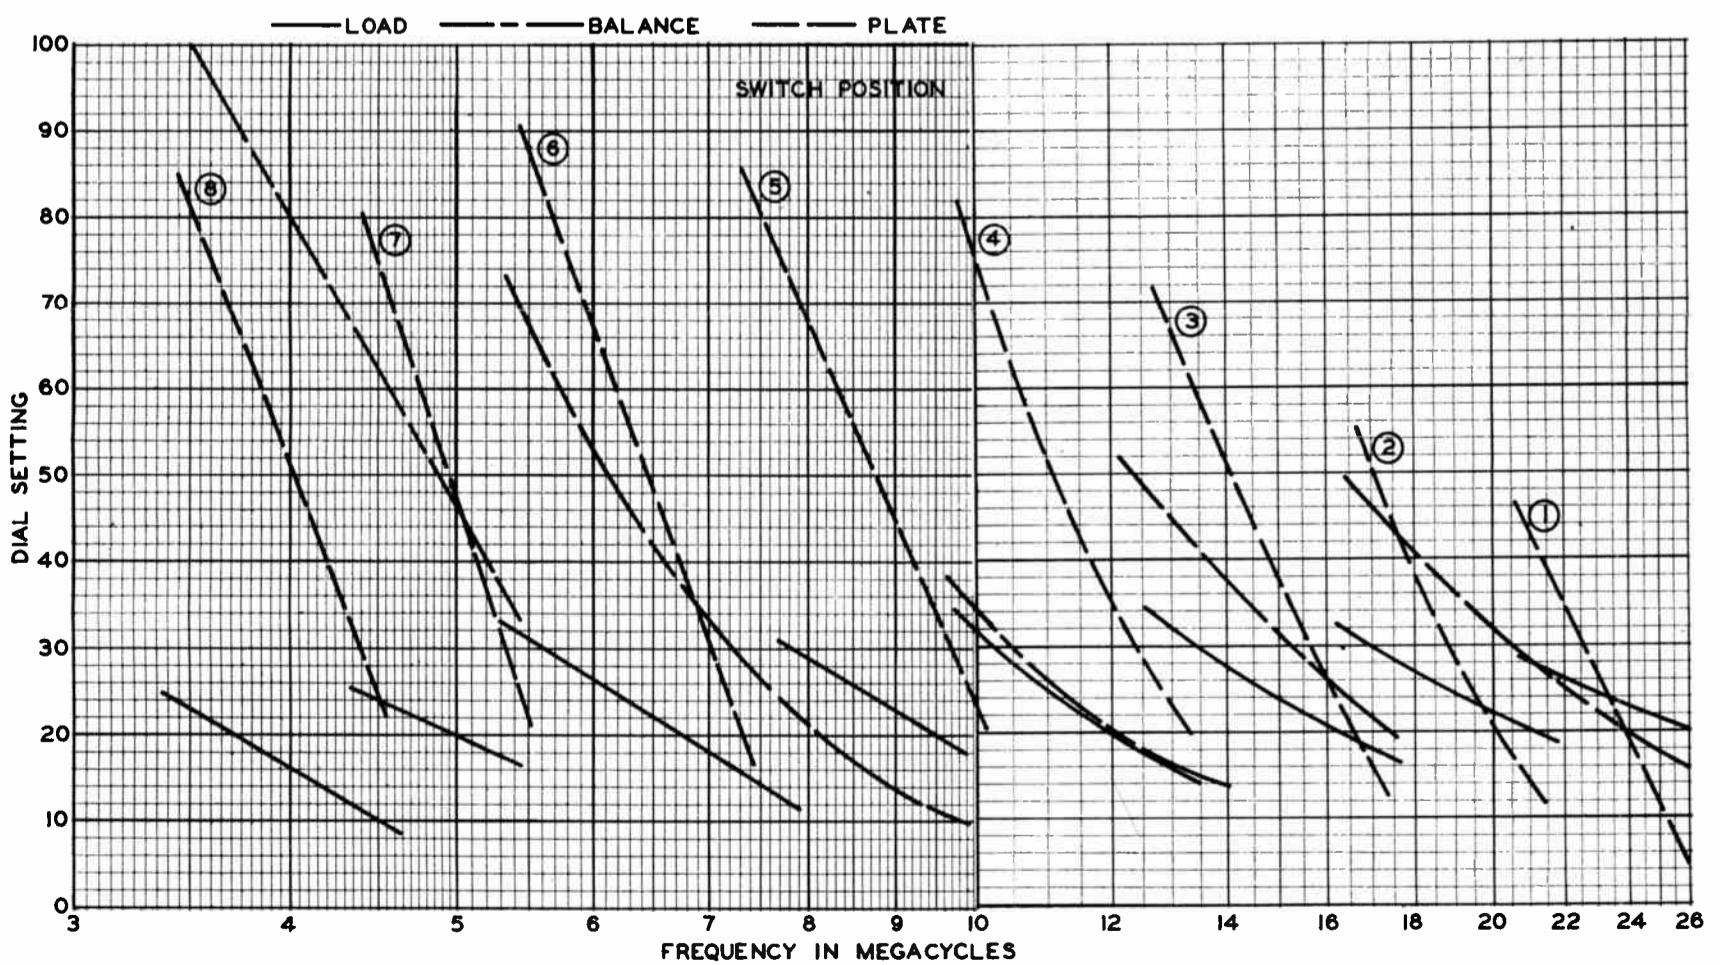

FIGURE 27B TYPICAL TUNING CURVE OUTPUT NETWORK WITH 600Ω BALANCED LOAD
4.6.4. Power amplifier and Antenna Tuning. (See Figure 27B, 27C) This transmitter has been designed for operation into an unbalanced or balanced antenna system. Either type of operation may be selected at will. The power amplifier plate tank and antenna loading circuits are combined in a pi network. The network is designed to couple the output of the power amplifier to an unbalanced or balanced antenna system. (The balancing circuit must be used when exciting a balanced antenna system.) The circuit will couple the power amplifier circuit to antennas having impedances of from 50 to 1200 ohms with a phase angle of +0 degrees, 70 to 850 ohms with a phase angle of + 45 degrees and 100 to 600 ohms with a phase angle of + 60 degrees. (Refer to Fig. 27.) The balancing circuit when used will permit operation into a transmission line of 300 to 1200 ohms resistive, with a standing wave of up to 2 to 1 ratio.